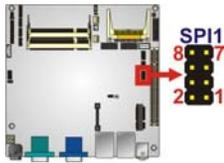

Figure 3-19: SPI Flash Connector
- CN Location:** See **Figure 3-19**